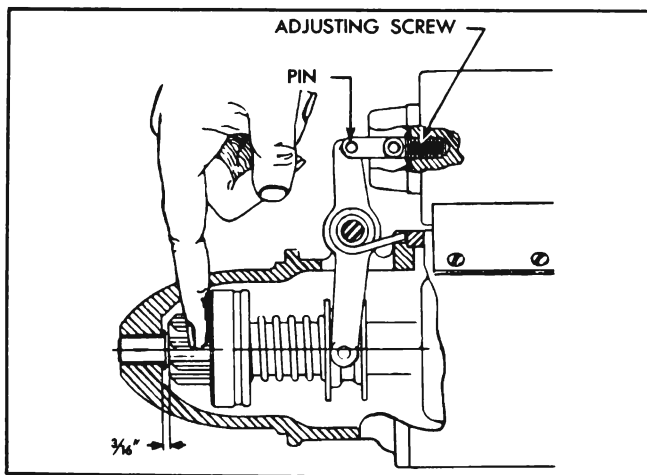

Figure 10-53—Checking Pinion Travel
4. Press finger lightly against outer side of drive assembly shell to take out all lash in shift linkage, then measure clearance between end of pinion and machined surface on drive housing. Clearance should be  $\frac{3}{16}$ ". See figure 10-53.